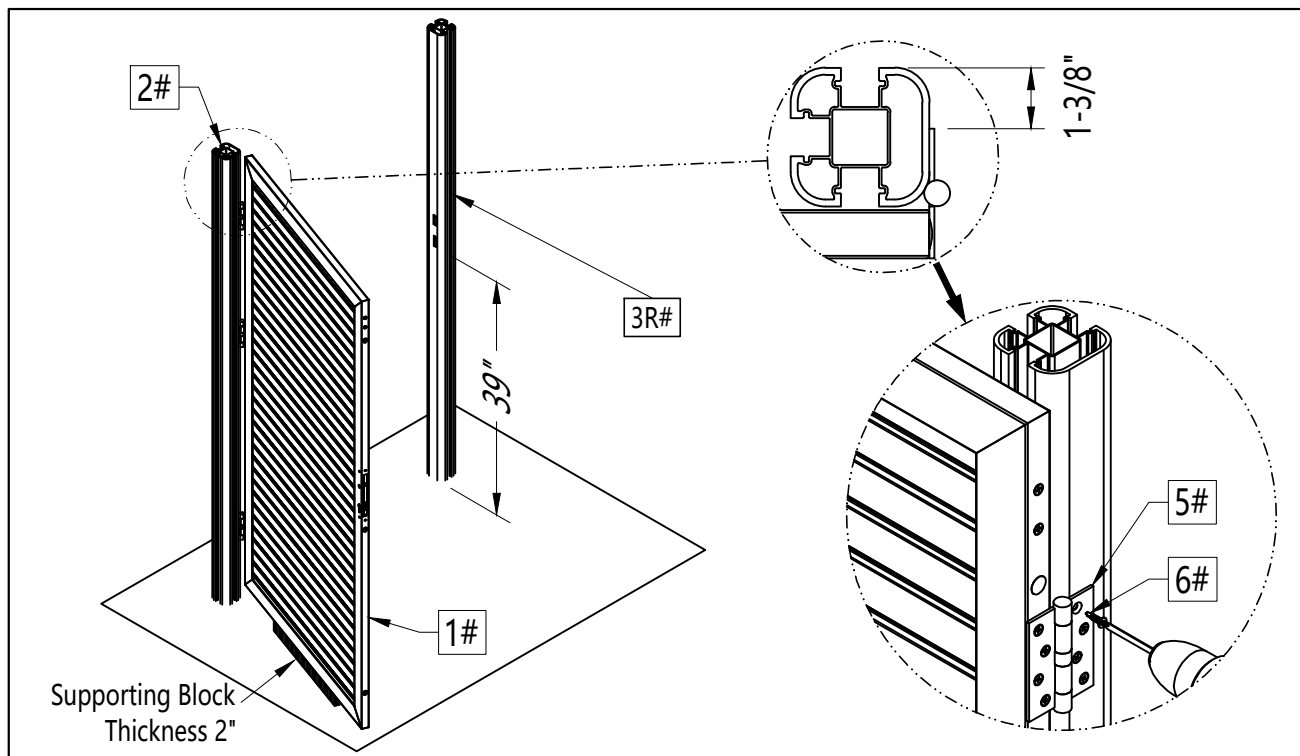

Figure 10
- 10 Put a supporting block under the bottom of the Fence Gate (1#) and adjust the block thickness until the Latch (9#) can go into the Strike Plate (7R#) lock hole completely. Then fix the fence gate on the posts with Screws (6#), as shown in Figure 10.